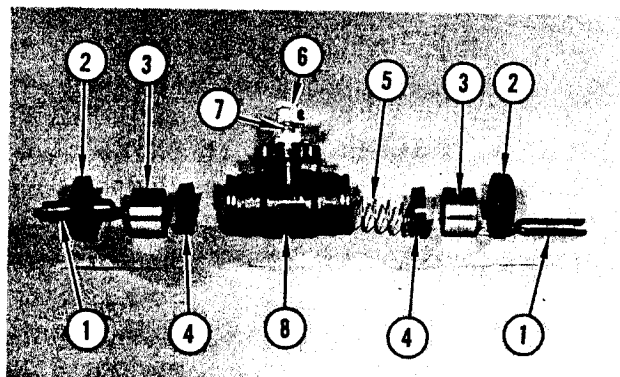

FIGURE 5. WHEEL CYLINDER ASSEMBLY
Refer to Figure 5 and follow the numerical sequence for disassembly. Remove connecting links (1). Remove boots (2). Remove pistons (3), piston cups (4) and piston spring (5). Remove hydraulic line fitting (6) and bleeder valve (7) from the valve body (8).
Reverse the numerical sequence as shown in Figure 5 to reassemble the wheel cylinder along with the following information.